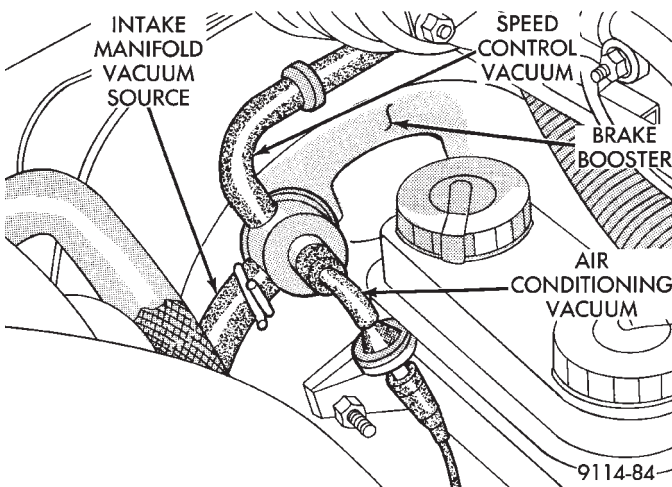

Fig. 10 Power Brake Booster and Speed Control Vacuum Hose Connections
(14) Check the power brake booster and speed control connections (Fig. 10).
(15) Inspect the engine and fuel injector harness to main harness electrical connections.